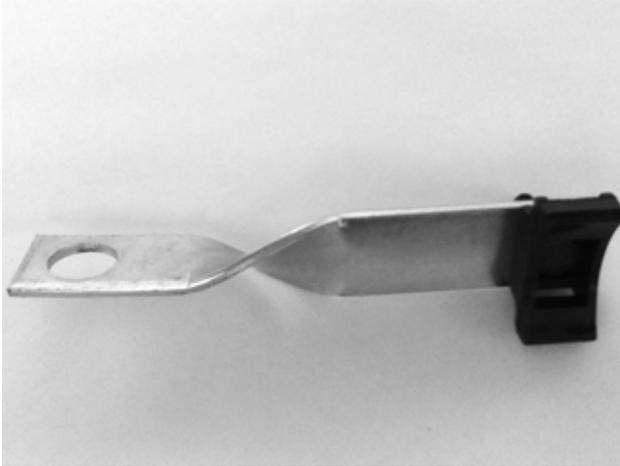

Figure 20
7. Use parts listed on page 1 for use on WorkStar[®]. Attach saddle (2041341C1) to extension twist bracket (2040046C2) and secure with saddle bolt (25222R1) using saddle lock washer (120380) and saddle nut 25519R1 (Figure 20).